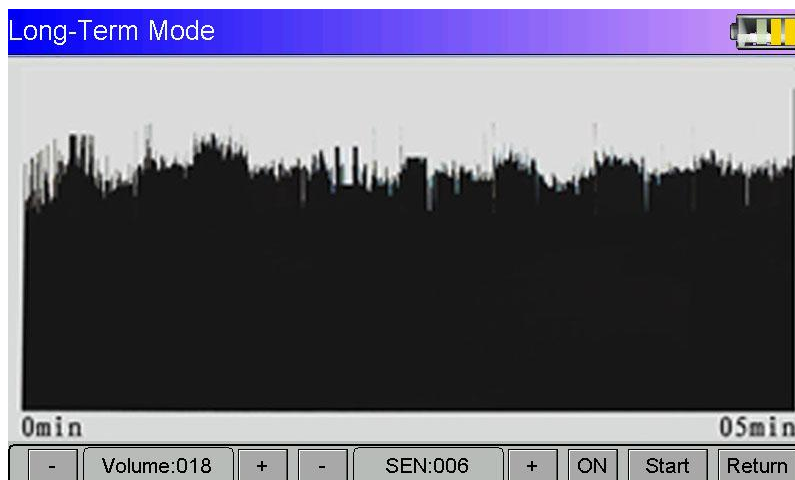
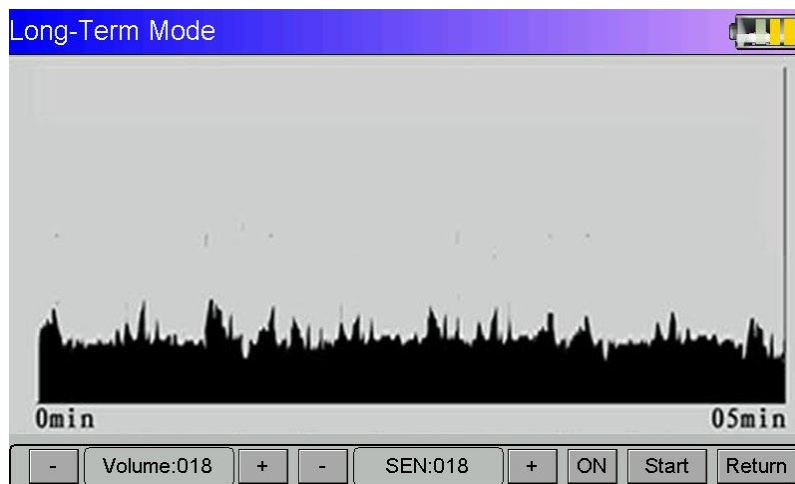

Figure 12
Figure 13
- In the same suspected leakage point, curve amplitude is higher in peak water while the curve amplitude reduce at the low water peak. ( See Figure 12, Figure 13 )